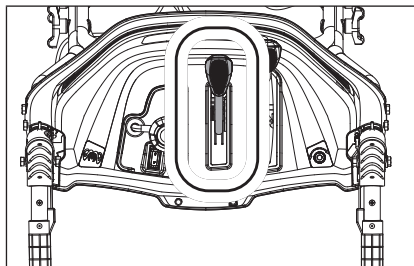

Figure 44
1. Locate the chute deflector control lever on the control panel. (Fig. 44)